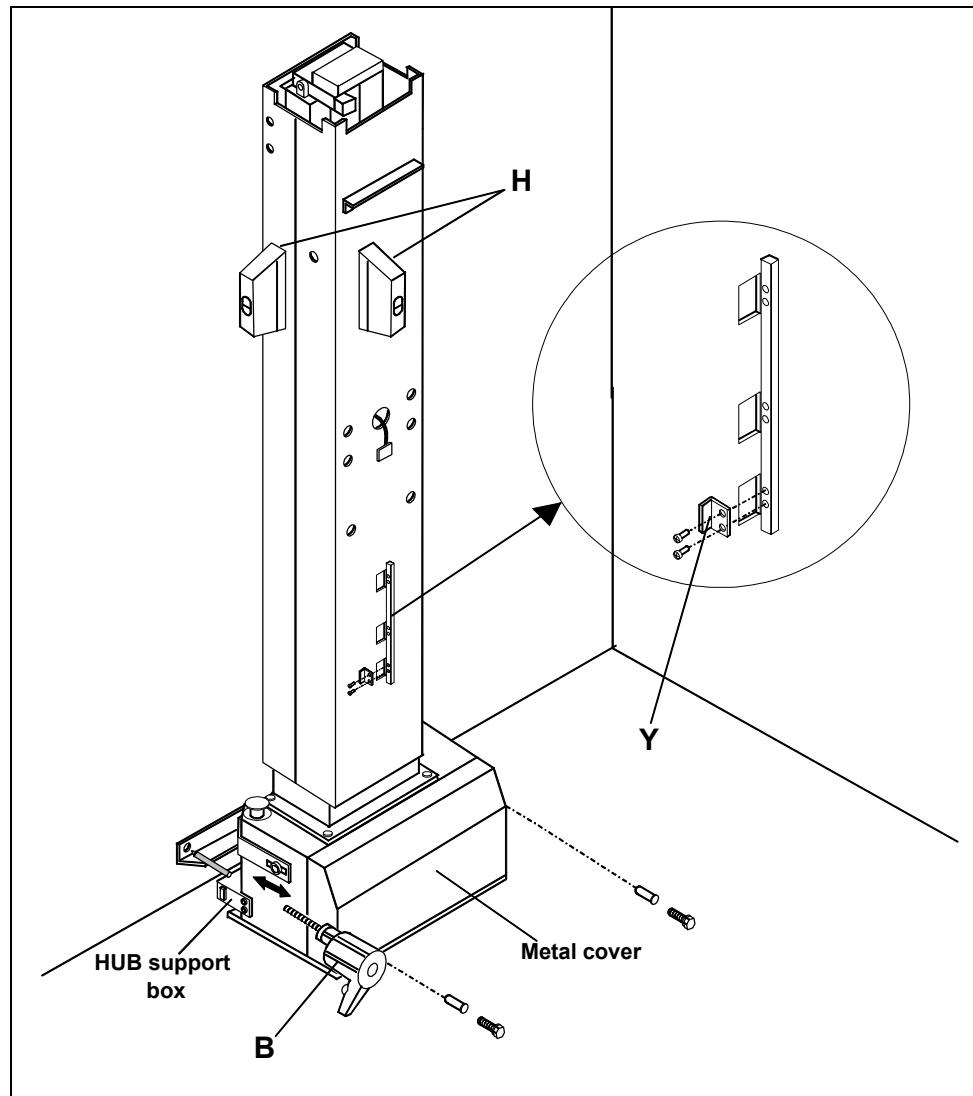

Figure 6-3
- 8.** Install the HUB support box (normally resting on the side of the mains switch during shipment) in its location just under the exit of the mains cable (see previous Figure 6-3) and fix it with the two relevant fixing screws.
Whenever the stroke has to be reduced (e.g. in case of lower ceiling), act on plate "Y" (Figure 6-3), located on the front side of the column.
- 11.** When the column is fixed to the wall, remove the metal cover located at the base of the column (see previous Figure 6-3).